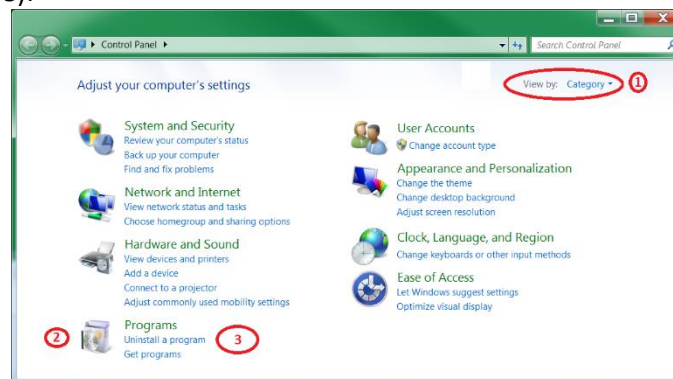

Figure 8: The 'Control Panel' window is open in 'Category' view (1).
After the 'Control Panel' is launched in 'Category' view (1), click on the 'Uninstall a program' (3) option in the 'Programs' item (2) (fig.8):